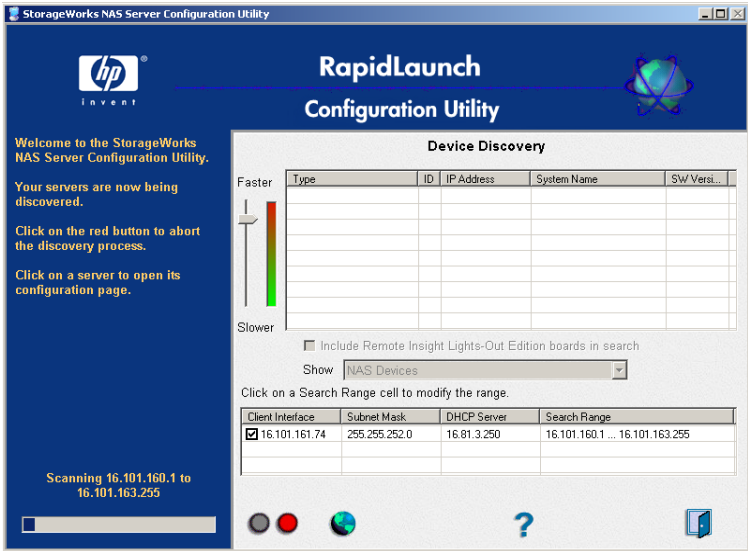

Figure 4: RapidLaunch search screen
- Return to the PC. Select **StorageWorks NAS** from the **Show** drop-down list to have RapidLaunch list all NAS devices on the network, as shown in Figure 4.